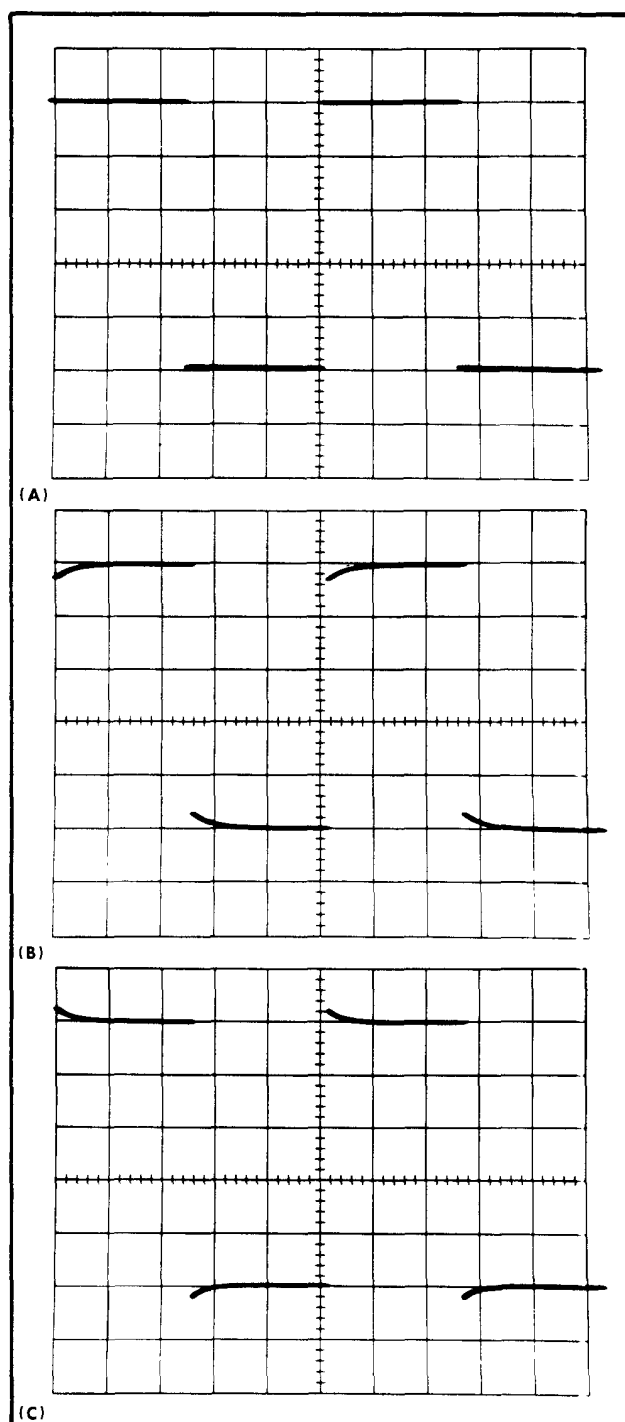

Fig. 5-5. (A) Typical CRT display showing correct input capacitance adjustment; (B) and (C) incorrect.
- h. CHECK—CRT display for less than 0.05 division overshoot or rounding (matched within 1%; see Fig. 5-5).